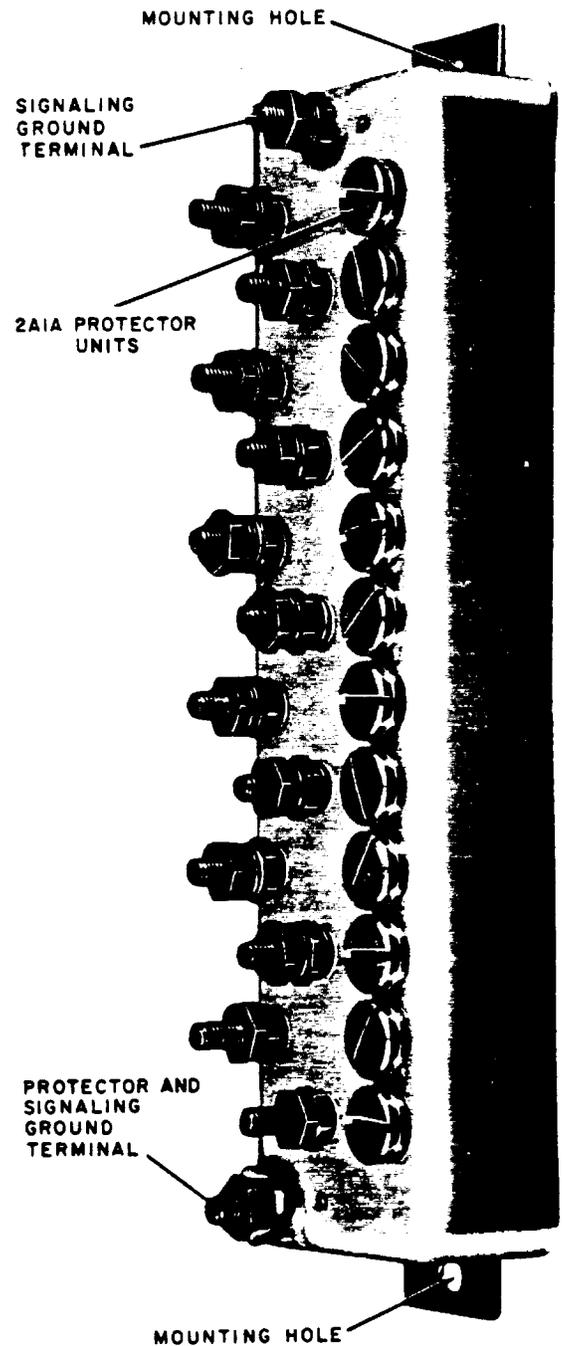

Figure 5—117B Protector
3.09 The 117B protector (Figure 5) should be grounded with 10-gauge ground wire (Table B). The 117B protector is designed for indoor use and generally used with 6-pair multiple aerial service wire.